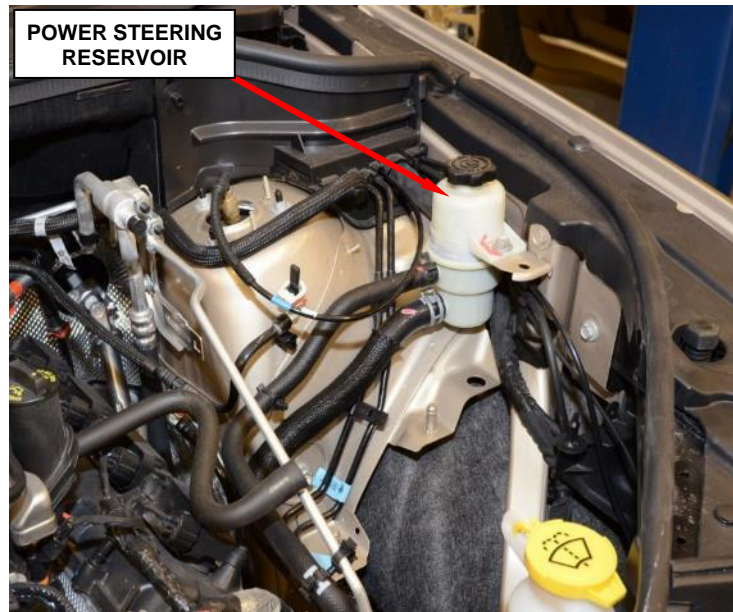

Figure 17 – Relocate Power Steering Reservoir
6. Relocate the power steering reservoir (Figure 17).
27. Place power steering reservoir into position and install retaining bolt. Tighten the bolt to 20 N·m (15 ft. lbs.) (Figure 17).
35. Place power steering reservoir into position and install retaining bolt. Tighten the bolt to 20 N·m (15 ft. lbs.) (Figure 17).